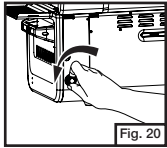

Fig. 20
- If the igniter does not spark, open the battery cover near regulator and try to change a new battery. (Fig. 20)